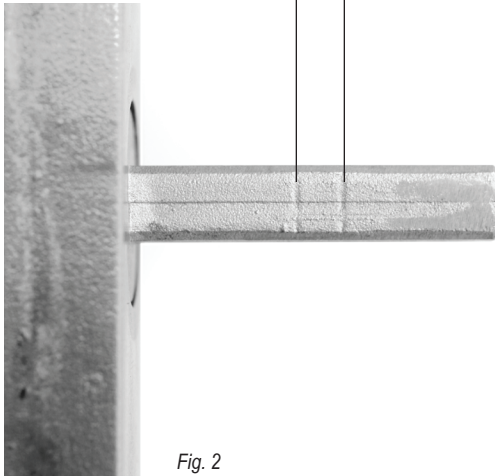

Fig. 2
3. Determine spindle length requirements (fig. 2).